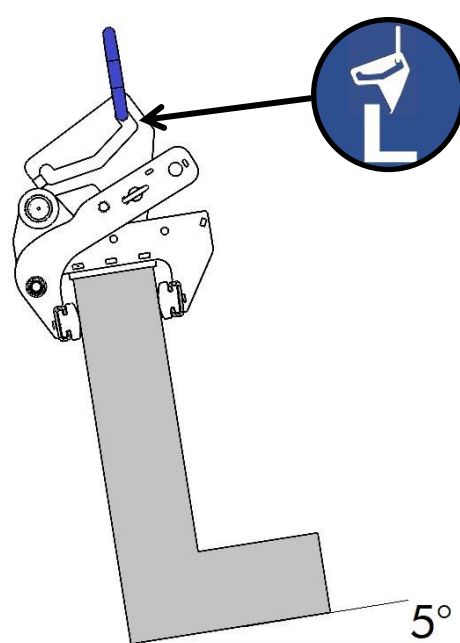
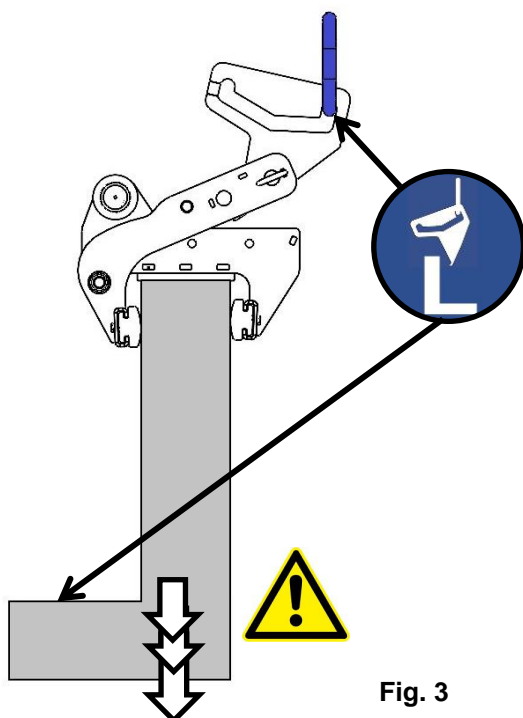

Fig. 2
Fig. 3
Now the corresponding parts can be moved accordingly (→ Fig. 2 or Fig. 3).
**In this case, a maximum angle of slope of max. 5° is permissible during the lifting process (→ Fig. 2).**